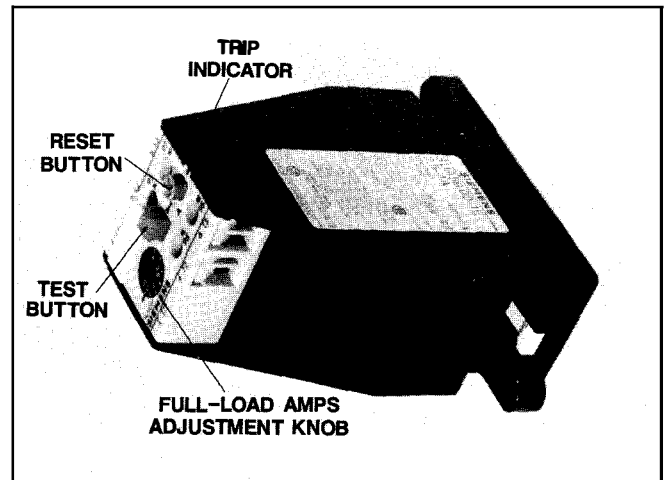

Figure 32. 3UA Overload Relay
The 3UA overload relay is set for HAND reset operation when shipped from the factory. The relay may be set for AUTO operation by depressing and turning the blue reset button counterclockwise to the position marked "A". See Figure 32.
2. Verify the dial adjustment. See Figure 32. The setting should **not** be greater than the value shown in Table IX.